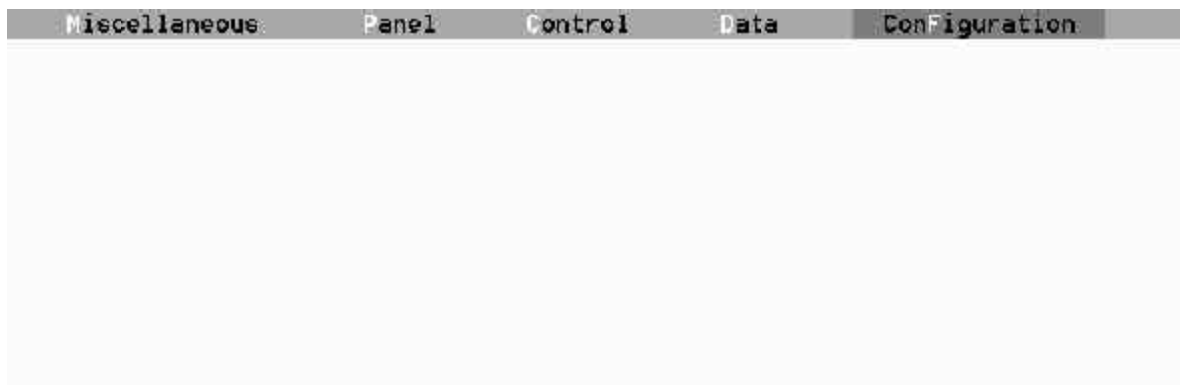

Figure 20: Main menu
- ✓ The main menu appears as shown in Figure 20.